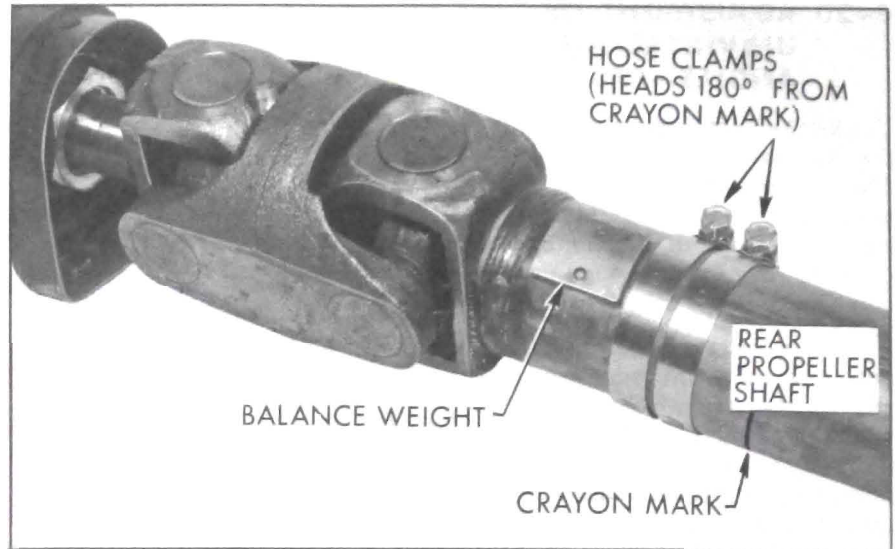

Figure 6-77—Hose Clamps in Place Opposite Crayon Mark
5. Place the hose two clamps side by side with the heads together and 180° from the crayon marking. See Figure 6-77. Tighten the clamps.